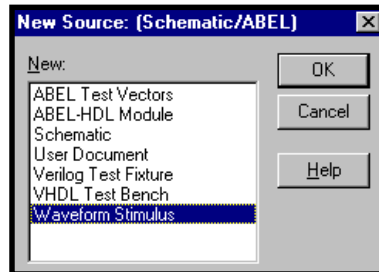

Figure 1-4. New Source Dialog Box
1. Select the **Source** ⇒ **New** menu item from the Project Navigator. The New Source dialog box appears, prompting you to choose the type of the new source in your project (Figure 1-4).